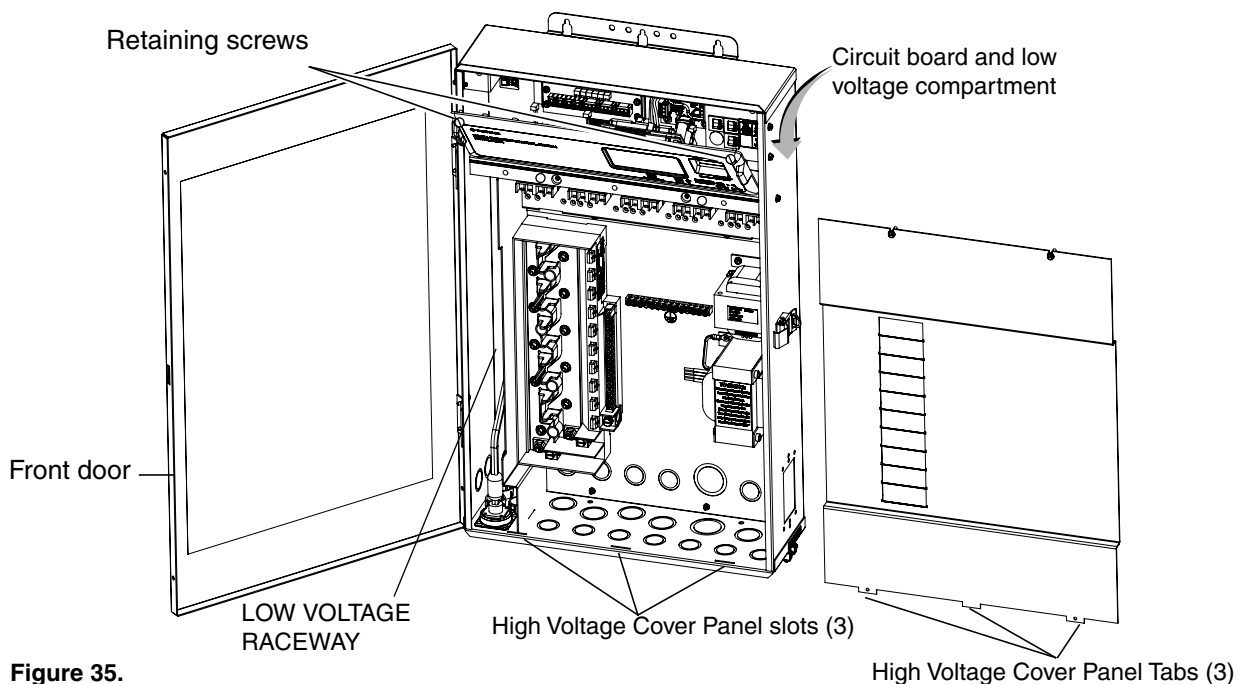

Figure 35.
2. Unlatch the front door latch and open the front door. Remove the two retaining screws from the High Voltage Cover Panel and remove the panel. See Figure 35.